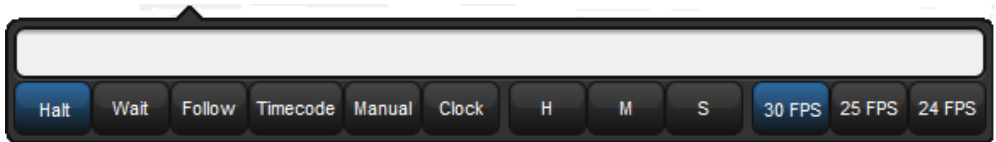

Figure 13.10. The Trigger Toolbar
3. The Trigger Toolbar will appear below the Wait cell; see *Figure 13.10*, “The Trigger Toolbar”. Select an option from this.
3. The Trigger Toolbar will appear below the Wait cell; see *Figure 13.10, "The Trigger Toolbar"*.